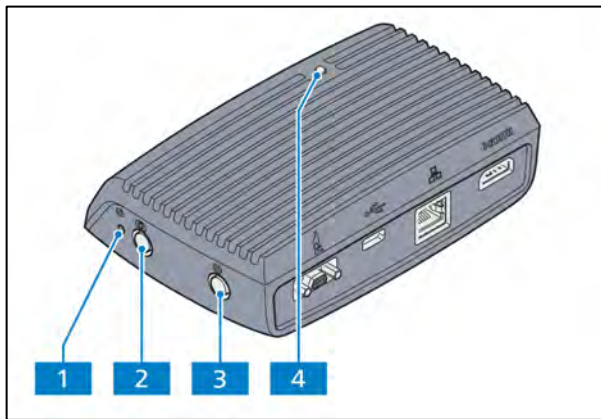
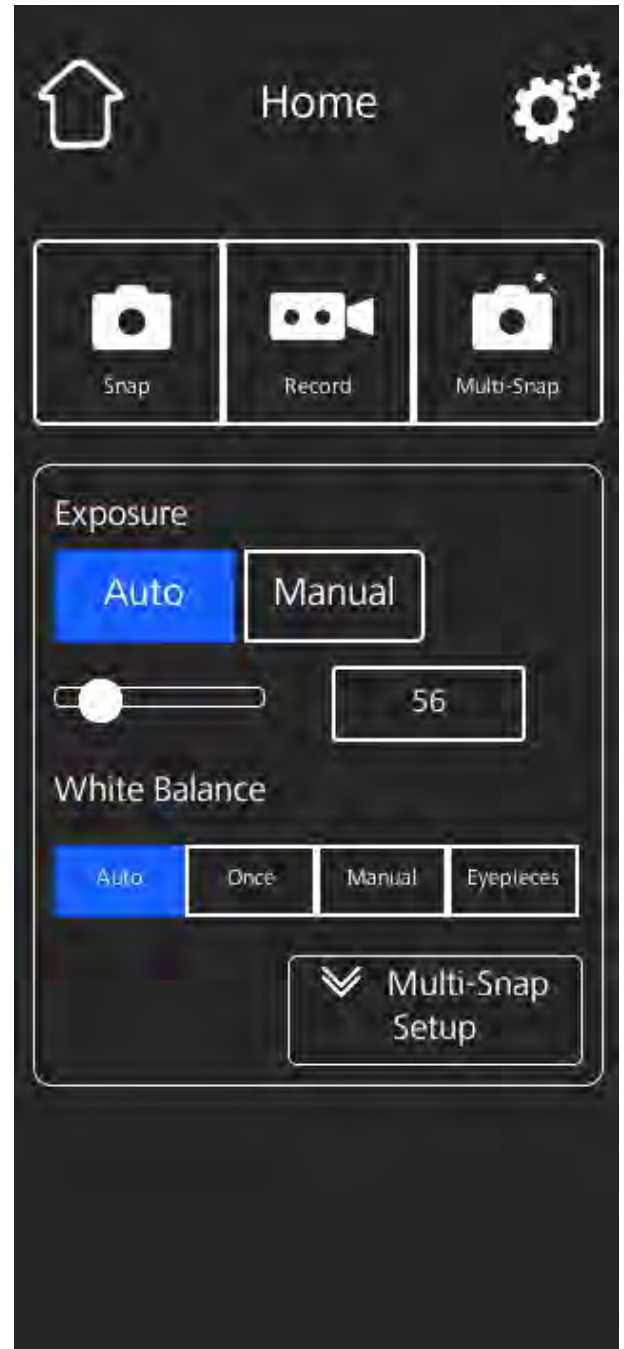

Fig. 2-19 Camera operator panel
Fig. 2-20 OSD menu, Home
The camera operator panel contains the following elements (see Fig. 2-19):
- Press the **OSD menu** button (Fig. 2-19/4) to open the menu (see Fig. 2-20).